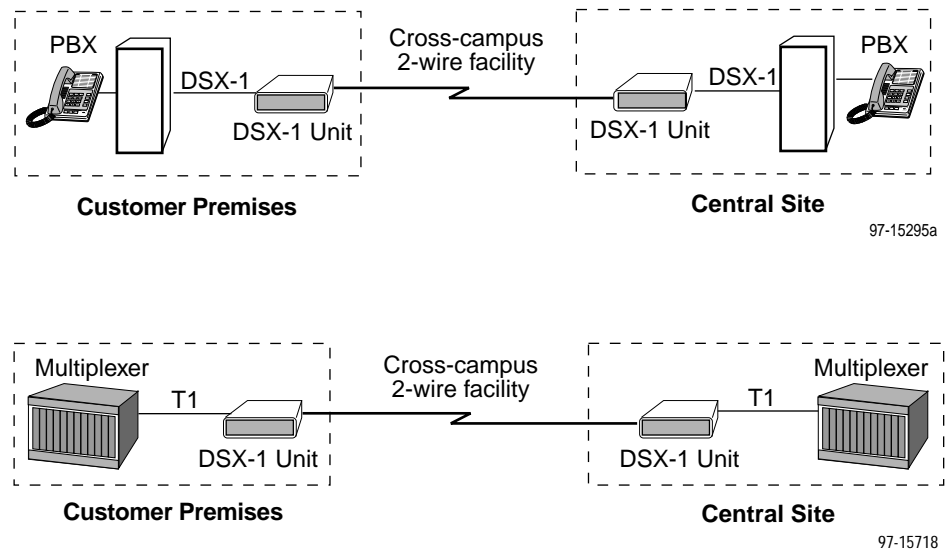

Figure 1-1. Campus Network Applications
Figure 1-1 shows two typical campus applications where remote PBXs or multiplexers are interconnected across a campus using two Hotwire Model 7914 standalone units. In each pair, one unit is configured as a central site or central office (CO) unit and the other is the remote or customer premises (CP) unit.